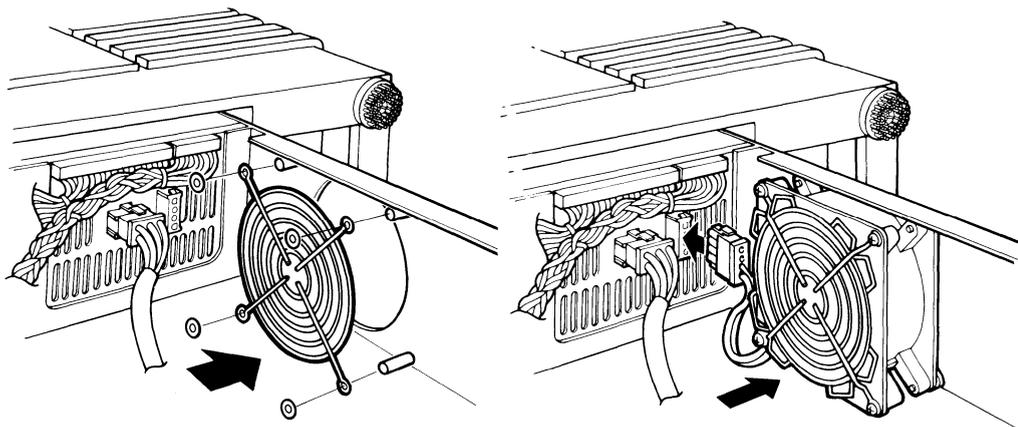

Figure 6-29 Install Replacement Fan
2. Relocate the four screws and place the fan guard on the screws. Make sure the cross members of the fan guard face the inside of the unit (Figure 6-29).